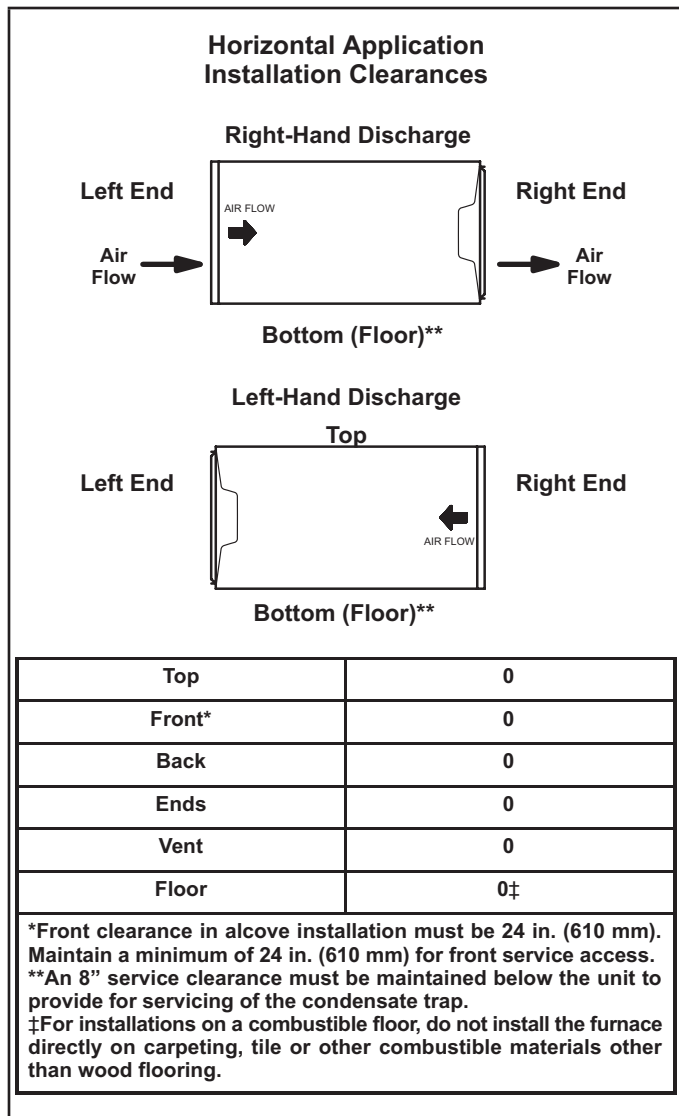

Figure 17
The ML197UHEK furnace can be installed in horizontal applications with either right- or left-hand air discharge. Refer to Figure 17 for clearances in horizontal applications.
- 1 - Select location for unit keeping in mind service and other necessary clearances. See Figure 17.